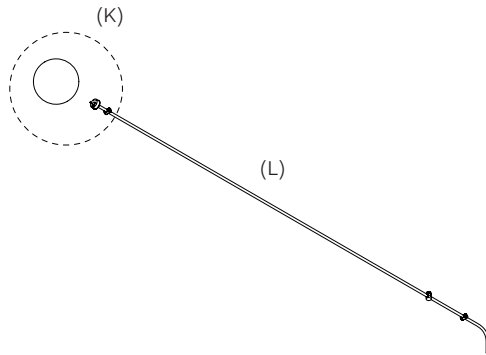

Fig. 13
Secure the Large Glass Sphere 1 (K) with the supplied M2×20 screw and hex key, ensuring it is tight to keep the connectors flush. See Fig. 13.